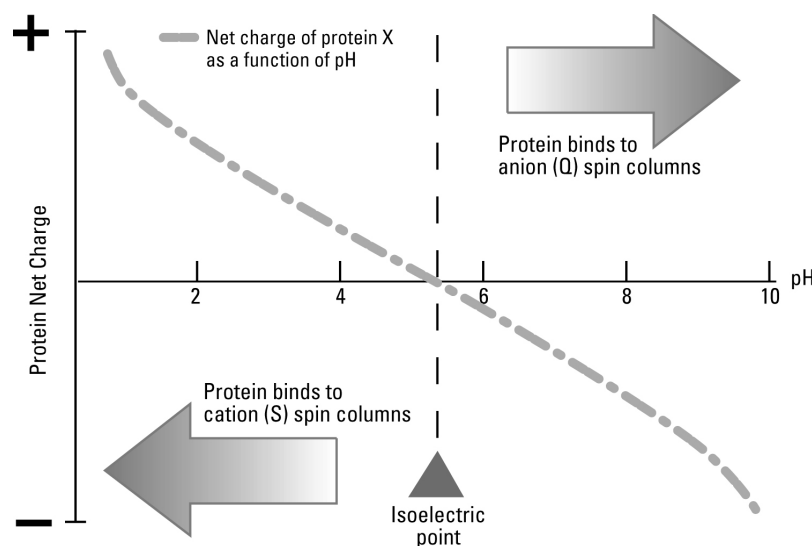

Figure 1. Pierce Ion Exchange Spin Column purification example.
- The spin column capacities are 4 mg proteins/peptides for the mini and 60-80 mg protein for the maxi. Actual capacity depends on the specific protein sample, selected pH and salt condition. Capacities were established using 1 mg/ml of BSA in 25 mM Tris•HCl, pH 8.0 for the anion (Q) columns and 1 mg/ml of cytochrome C in 25 mM sodium acetate buffer, pH 5.5 for cation (S) columns.
- Purification examples: A protein with pI 9 is positively charged at pH 7 and will bind to the cation (S) columns. Increasing the salt concentration or raising the buffer pH above 9 will elute the bound protein. A protein with pI 4 is negatively charged at pH 7 and will bind to the anion (Q) columns. Increasing the salt concentration or lowering the buffer pH below 4 will elute the bound protein. (See Figure 1 for another example.)